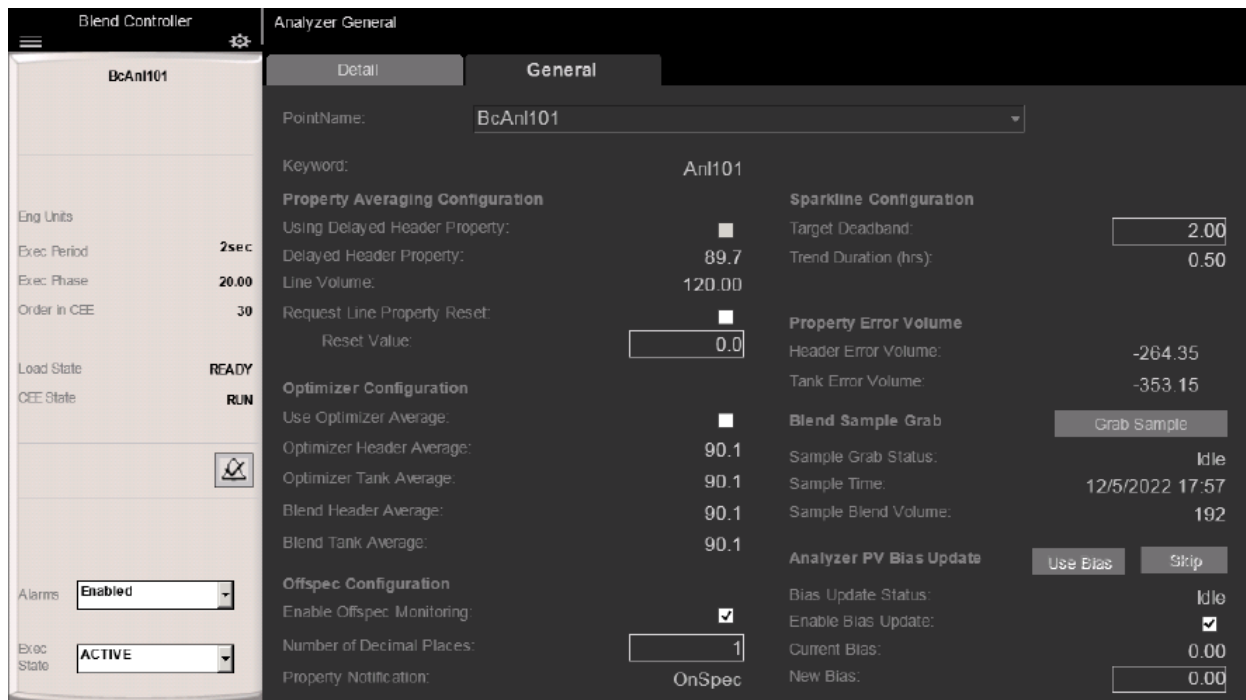

Figure 1: Analyzer detail display
- **Grabbed:** The spot sample has been requested. The blend volume and timestamp of the request are captured and displayed on the analyzer detail display, as shown in Figure 1.